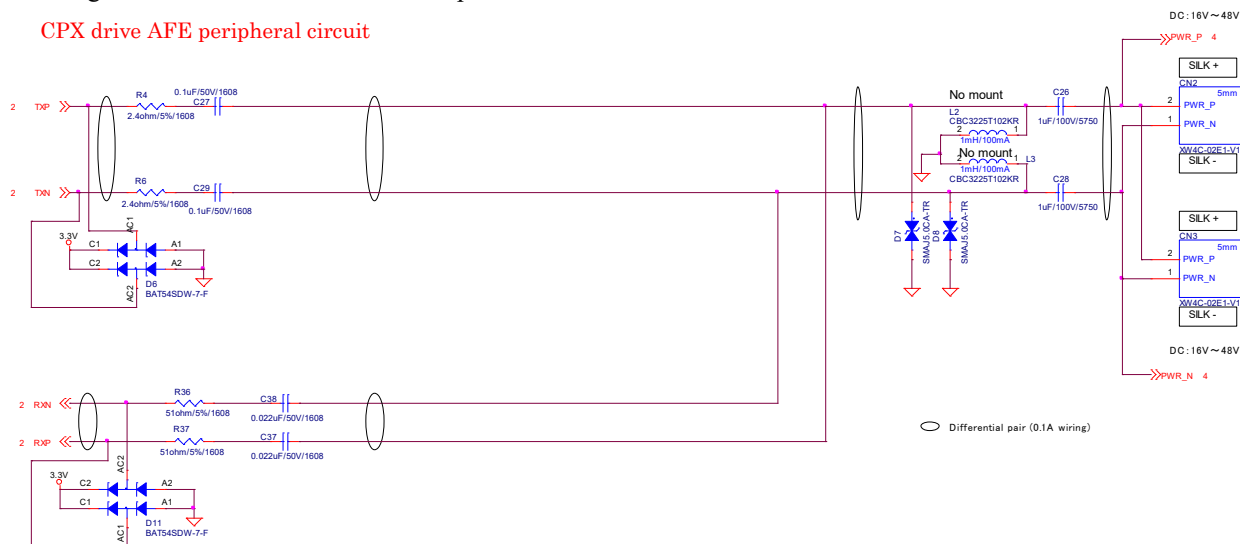

Figure 3-1 Connection example of CPX drive AFE peripheral circuit
- Figure 3-1 shows a connection example of a CPX drive AFE circuit.